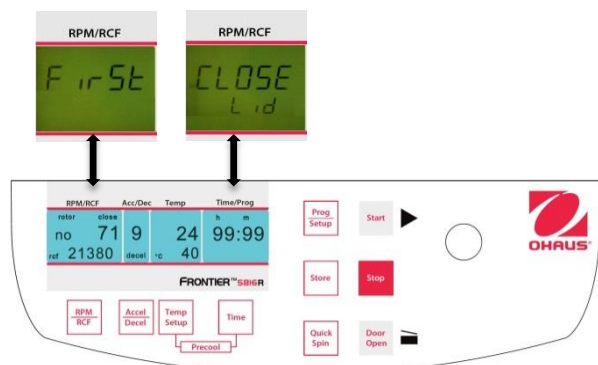
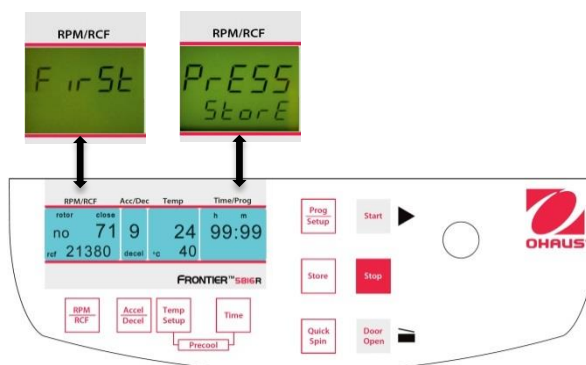

Figure. 23
Figure. 24
Close the lid of the centrifuge. Now proceed as described previously to set all important run parameters. If the lid isn't closed when storing the program, in the display **"RPM/RCF"** (A-1), the words **"FirSt"** and **"CLOSE Lid"** (See figure 23) flashes alternately. If you want to start the run without storing the program, in the display **"RPM/RCF"** (A-1), the words **"FirSt"** and **"PrESS StoreE"** (See figure 24) flashes alternately.
For adaption of data press the key **"Store"** (12) (refer to figures 23 and 24) for approx. 1 second. If the program is stored correctly, the word **"StorE"** appears in the display **"RPM/RCF"** (A-1). As a result, the word **"programm"** (M10) disappears.